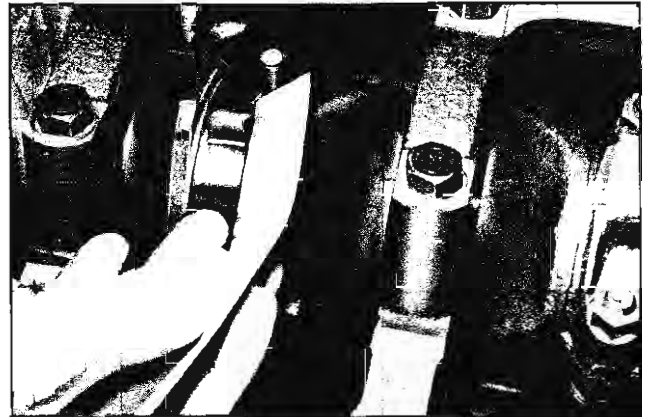

Fig. 53—Measuring Plastigage
6. Remove the bearing cap and without removing the Plastigage, check its width at the widest point with the Plastigage scale (fig. 53).